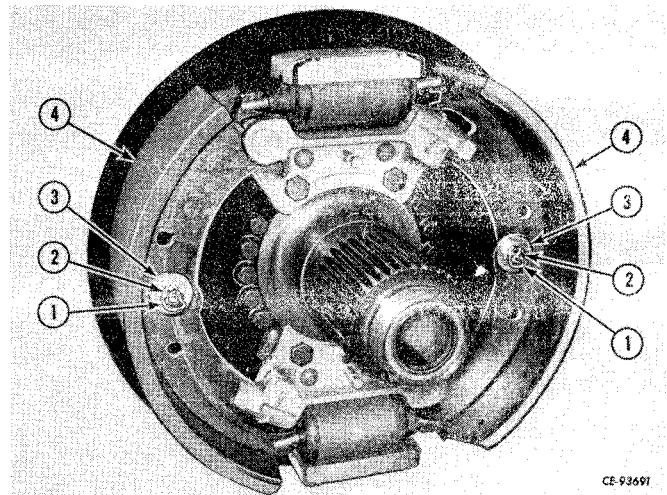

Figure 13-8
Remove the lock wires (1, Fig. 13-8), nuts (2), washers (3) and cap screws. Remove the shoe and lining assemblies (4).